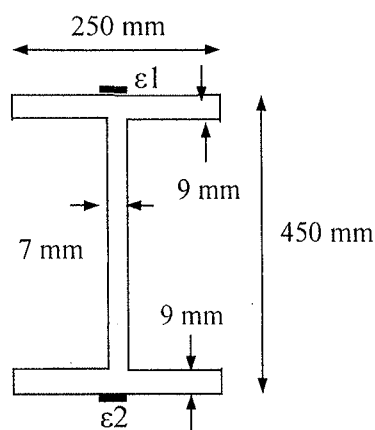

Figure Q4
- (iii) Two electrical resistance strain gauges (ϵ_1 and ϵ_2) are attached to a steel foot bridge pier to measure its axial load and bending moment. During load application, it was found that the strain gauge 1 (ϵ_1) experienced a strain of $550\mu\epsilon$ (micro strains) while strain gauge 2 (ϵ_2) experienced -350 (negative 350) $\mu\epsilon$. Steel has an elastic modulus of 200 GPa. The geometry of the section is shown in Figure Q4. Determine axial load and bending moment of the section. (11 Marks)